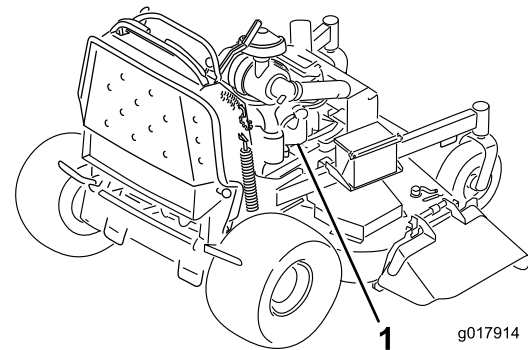

Figure 54
6. **Make the final connection on the engine block of the stalled vehicle (NOT to the negative battery post) away from the battery and stand back (Figure 54).**